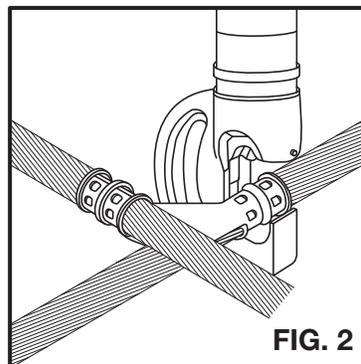

FIG. 2
5. Place connector on one of the die halves as shown in Figure 2.